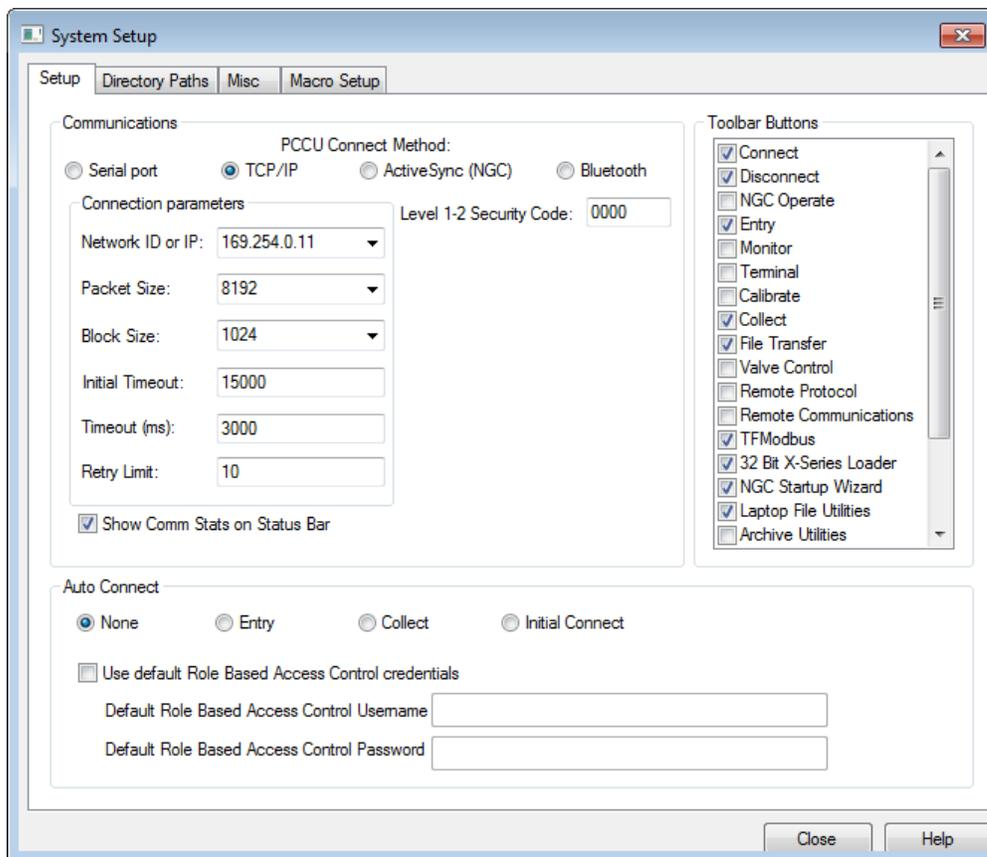

Figure 40: System Setup dialog box
- a. Click the **Setup** icon on the PCCU toolbar or click **Operate > Setup > System Setup** (Figure 40).